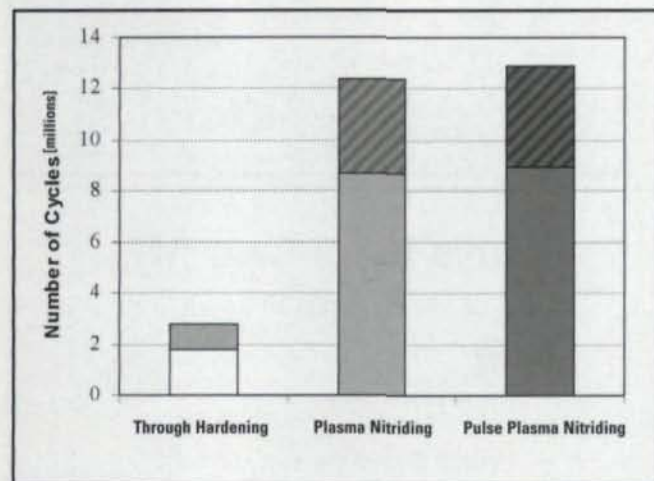

Figure 7—Pitting wear resistance of heat treated gears. (The top segments of the bars represent scattering of the results.)
The results of the pitting wear tests are shown in Figure 7. Plasma nitrided and pulse plasma nitrided 42CrMo4 steel gears showed greatly improved pitting wear resistance as compared to hardened steel gears. In the case of hardened gears, pitting failure occurred after  $\approx 2$  million cycles. Nitriding increased pitting wear resistance of 42CrMo4 steel by a factor of 5. The increase can be attributed to the combination of a high surface hardness, a fine surface microstructure and a tough core obtained by nitriding. As in the case of sliding wear tests, plasma and pulse
plasma nitriding give very similar pitting wear resistance to the investigated steel, as shown in Figure 7.
- 2.) In the case of larger volumes ( $> 100$ ), changing from hardened to plasma nitrided gears represents a cost reduction of up to 50%. For highly loaded gears, this reduction can be even higher, since plasma nitriding gives up to five times better pitting wear resistance compared with through-hardened gears (Fig. 7).